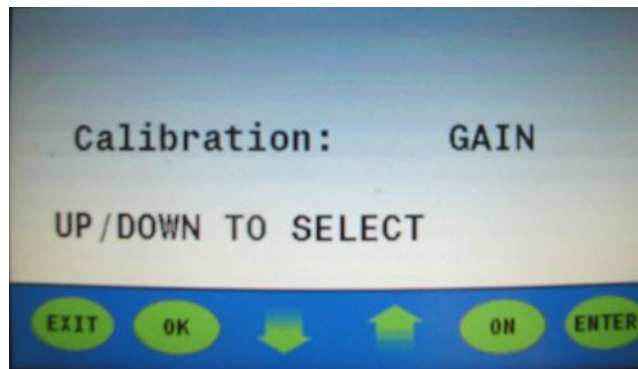

Figure 8
18. Press the up or down arrow to select "GAIN" and then press ENTER. **(Figure 8)**